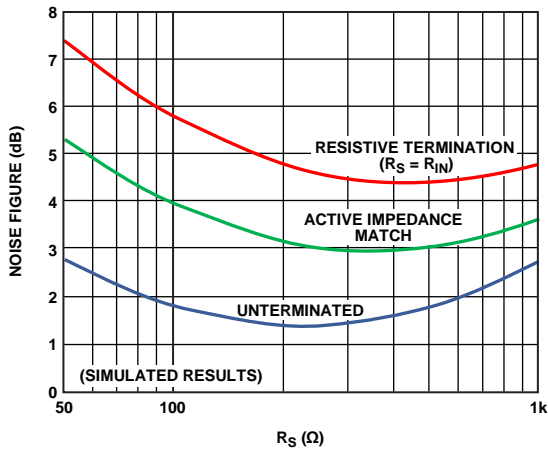

Figure 67. Noise Figure vs. R_S for Resistive, Active Match, and Terminated Inputs
The primary purpose of input impedance matching is to optimize the input signal power transfer. With resistive termination, the input noise increases due to the thermal noise of the terminating resistor and the increased contribution of the input voltage noise generator of the LNA. With active impedance matching, however, the contributions of both are smaller than they are for resistive termination by a factor of $1/(1 + \frac{1}{2} \text{ LNA gain})$. The noise figure (NF) for the three terminating schemes is shown in Figure 67.